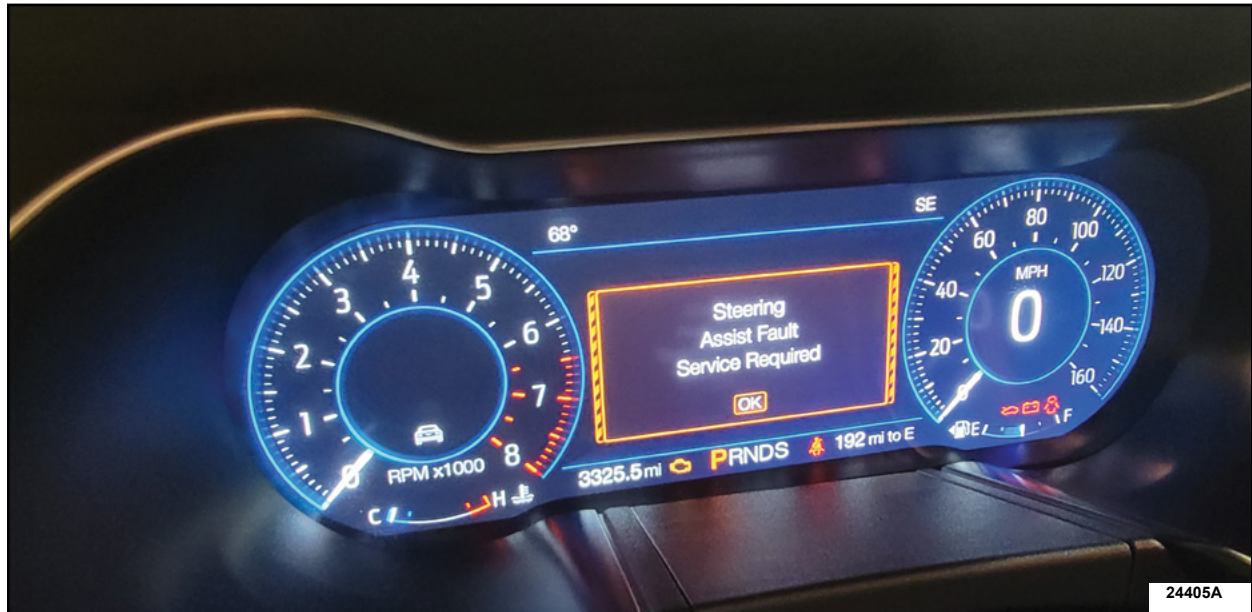

FIGURE 1
8. After the PSCM software update, a Steering Assist Fault Service Required message will be displayed on the message center. Do not press OK at this time. See Figure 1.